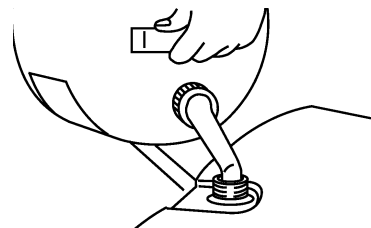

Figure 5
1. Clean around the fuel cap and remove it (Fig. 5).